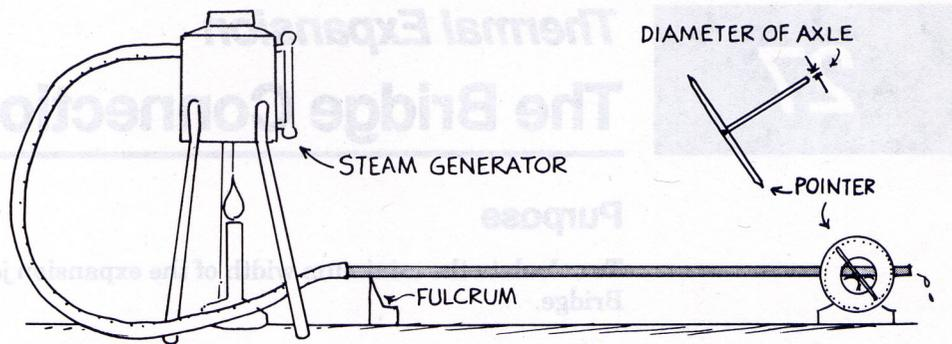

Figure 27.1
It is difficult to measure how much the rod expands because the expansion is small. One way to measure it is shown in Figure 27.1. The end of the steel rod is placed perpendicularly on the axle of the pointer. When the steel rod resting on the axle expands, it rotates the axle and the pointer through an angle.
Step 2. Assemble your apparatus as in Figure 27.1, with the steam generator ready to go. Make sure the tube has a place to drain. Measure the distance in millimeters from the groove in the steel rod to the axle of the pointer (since you are sampling the expansion between these two points). Do not measure the actual length of the rod.